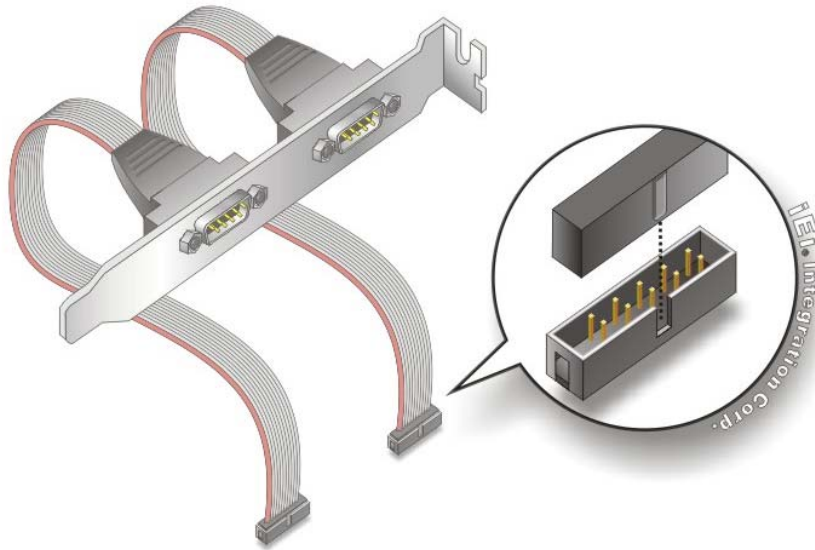

Figure 4-10: Dual RS-232 Cable Installation
Step 2: Insert the cable connectors. Insert one connector into each serial port pin headers. See **Figure 4-10**.